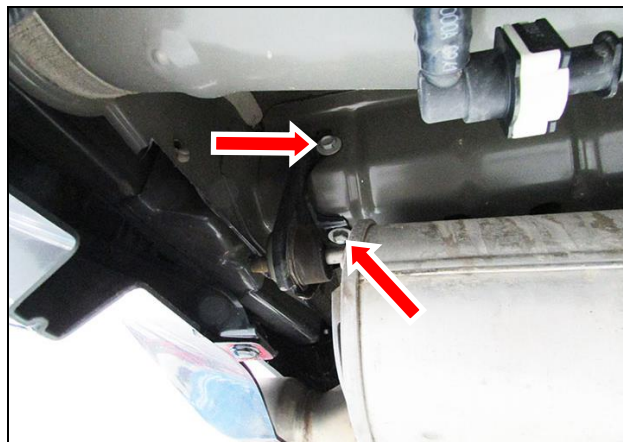

Figure 5
8. Remove (x2) 13 mm head bolts securing the left side rear OE muffler isolation mount brackets to the chassis. Remove the left side OE muffler section (**Figure 5**).